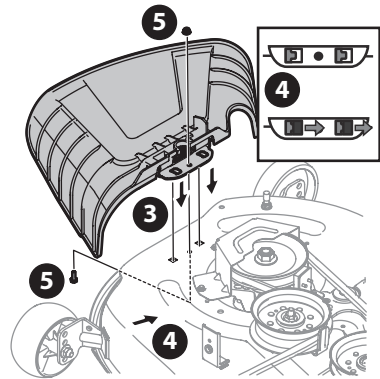

Fig. 18
3. Place the chute deflector on the deck, be sure to insert the tabs on the chute deflector into the holes on the deck (Fig. 18).
4. Slide the chute deflector toward the rear of the tractor until the bolt hole in the chute deflector aligns with the hole in the deck (Fig. 18).
5. Secure the chute deflector in place with the flange lock nut and hex screw removed in Step 2. Tighten to 102-124 in-lbs (12-14 N-m) (Fig. 18).